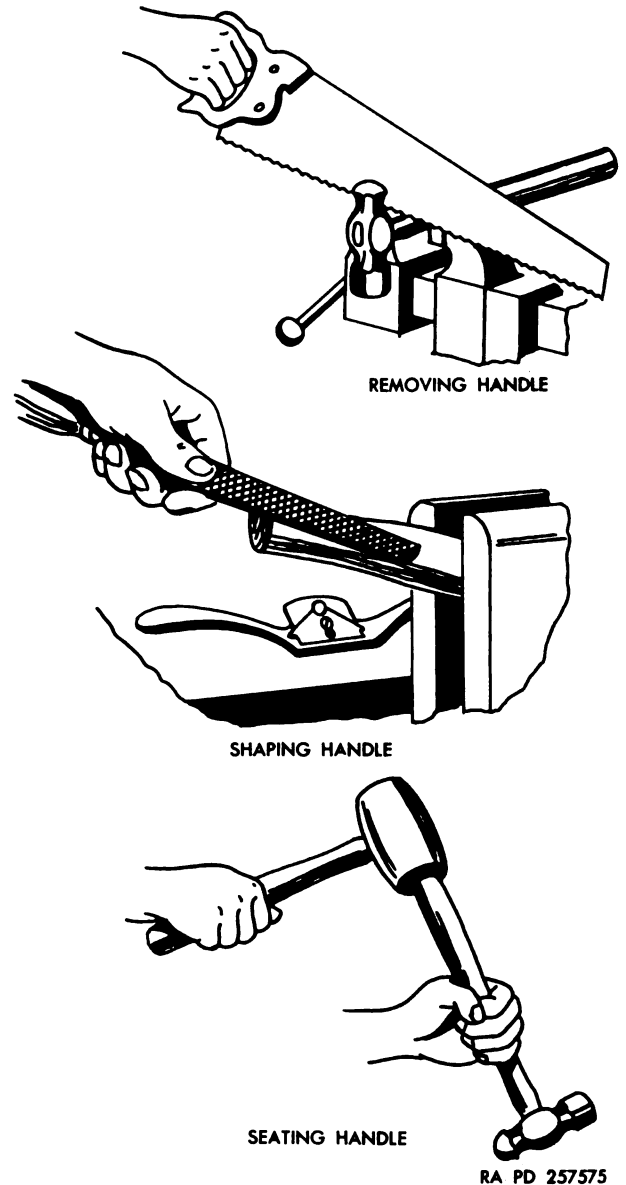

Figure 105. Replacing hammer handle.
a. Repair. Handles on hammers and sledge hammers must be inspected constantly to see that they are tight and to check for split or broken wood. If the handle is loose, seat it into the eye of the hammer head by striking the end of the handle with a mallet (fig. 105), and then drive the wedges back into the handle. If the wedges are not tight or do not spread the handle sufficiently to make it tight, add another wedge or use larger wedges, if possible. In an emergency, loose handle may be temporarily tightened by soaking it in water until the wood swells within the head. If the handle does not become tight, replace the handle.
b. Replacement. If a handle is split or broken, remove it from the head of the tool. If the handle is too tight to pull out of the head, saw off the handle close to the head (fig. 105) and drive the remaining end out through the large end of the eye. Save the wedges. Shape a new handle from hickory or maple to fit, using a spoke shave or wood rasp (fig. 105). If using a wooden wedge, make a saw cut in the end of the handle as shown in figure 106. Wedges may be metal or straight-grained hardwood. Never use nails or screws for wedges. Seat the new handle and check to see whether the handle fits properly. If it does, saw off the projecting end and drive the wedges into the handle (fig. 107). If the handle is tightened with metal wedges, smooth them off by grinding (fig. 107). If the handle is secured with